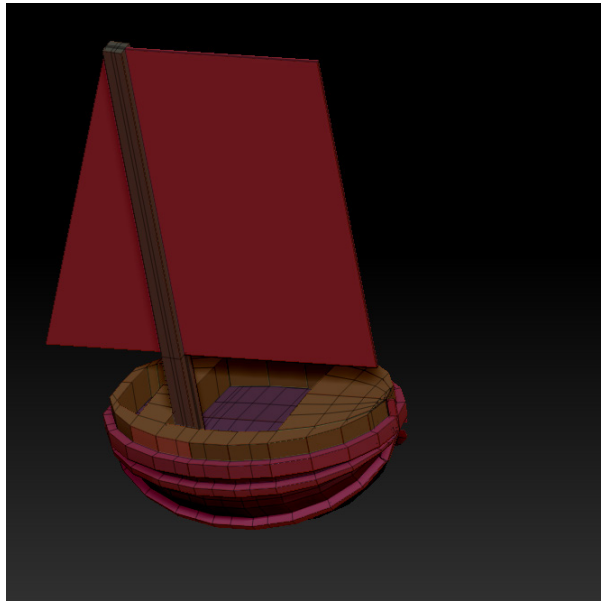

Figure 3-133 The polygons extruded
4. Now, drag the cursor on the selected polygons; the polygons are extruded, as shown in Figure 3-133.